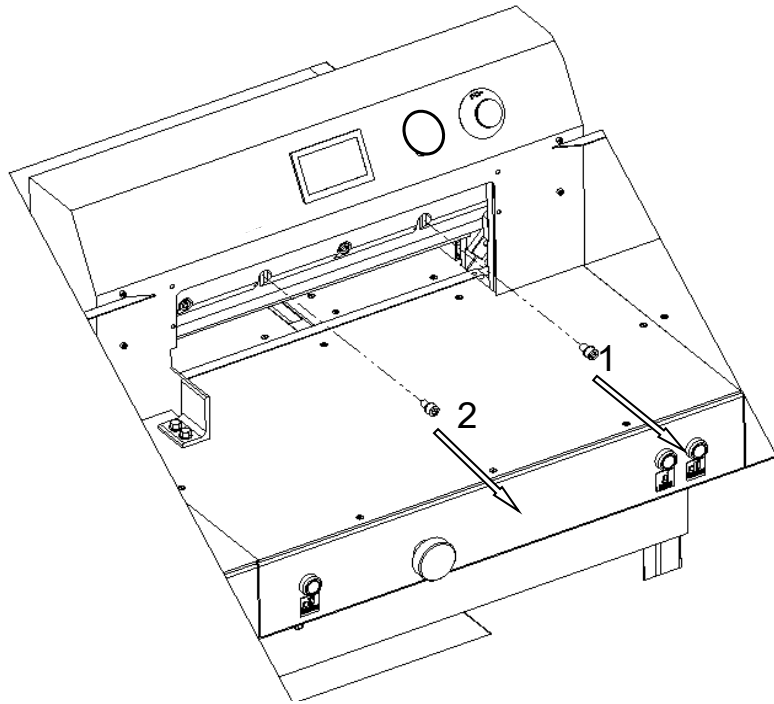
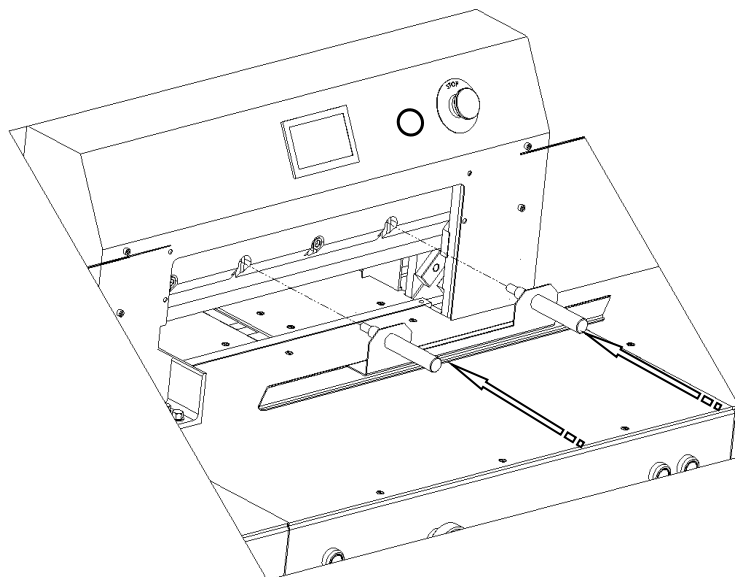

Figure 23.
Figure 24.
**8.1.1.9** Unscrew and remove the fastening screws 1 and 2 (Fig. 23).
**8.1.1.10** In the place of screws 1 and 2 removed (fig.23), screw in the transport handle 1 (fig.24).